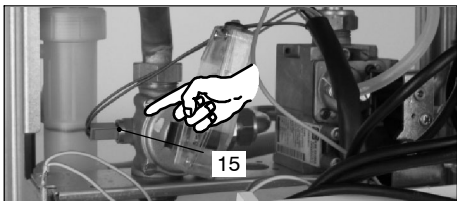

Fig. 8.6
- 9 Disconnect the C.h. temperature probe NTC 15 in Fig. 8.6
- 11 Connect the C.h. temperature probe NTC 15 in Fig. 8.6